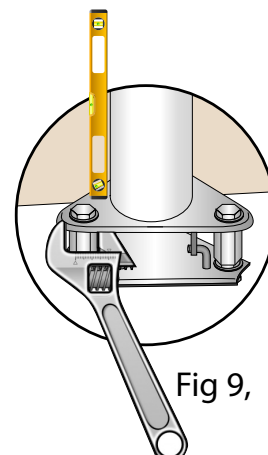

Fig 9,
10. Check the flagstaff is upright with a spirit level. Adjustments can be made by loosening the set screws and adjusting the long nut to bring the flagstaff perpendicular. (See Fig 9) Once satisfied, tighten the three flat nuts back up against the baseplate.